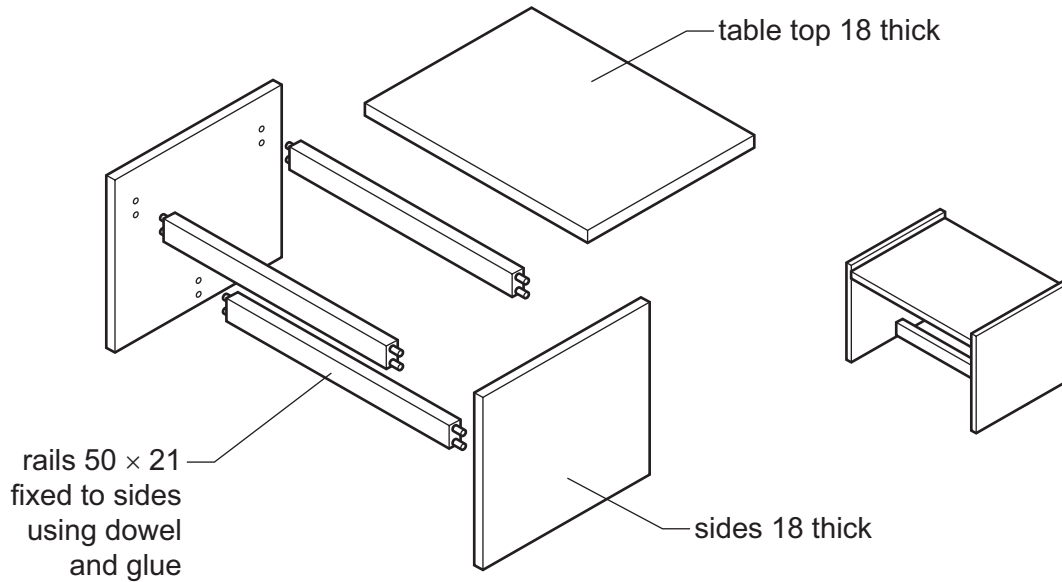

Fig. 8
- 11 Fig. 8 shows views of a table designed as flat-pack for self-assembly.